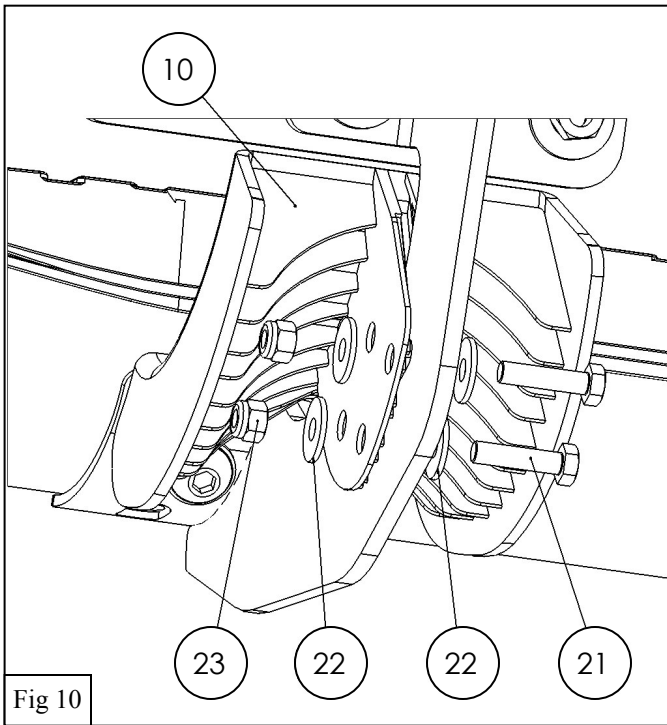

Fig 10
9. Secure the Plastic Bracket Covers (10) to the Mounting Brackets using the supplied M6 Hardware. See **Figure 10**.